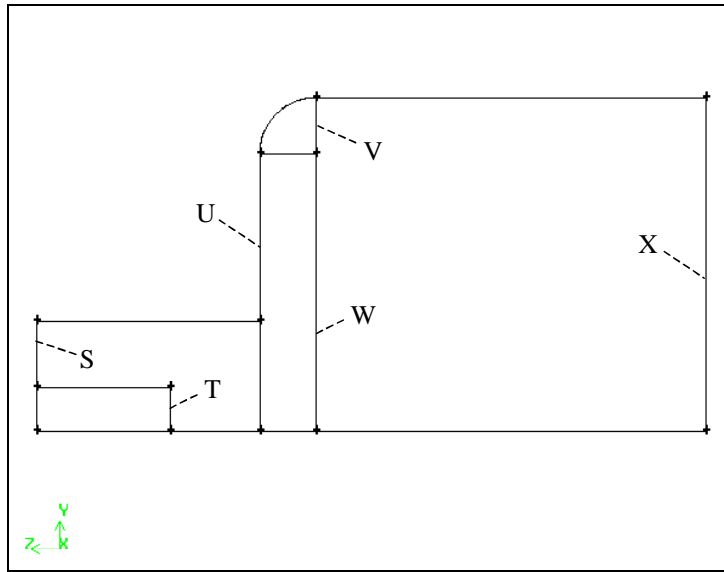

Figure 4-31: Source faces to be used for cooper mesh
*GAMBIT will automatically choose the Cooper **Scheme** as the meshing tool to be used, and will use an Interval size of 2 (the default) under **Spacing**. It will also select the source faces it requires to generate the Cooper mesh. These faces are marked S through X in Figure 4-31.*